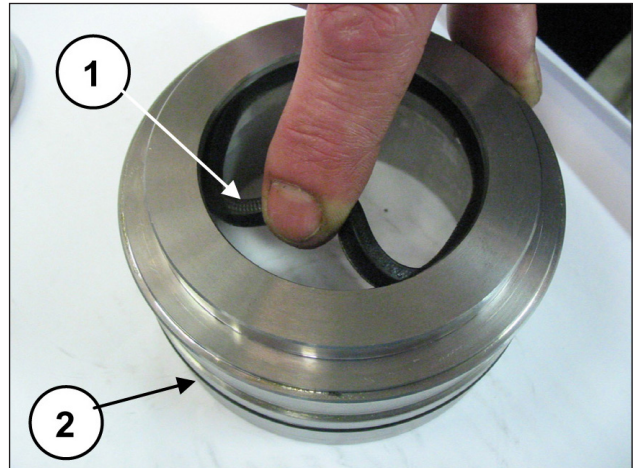

Fig. 194
Insert the low pressure seal in the packing support (pos. ①, Fig. 194) taking care to choose the direction of assembly where the seal lip is facing forwards (towards the head) and the O-ring (pos. ②, Fig. 122).